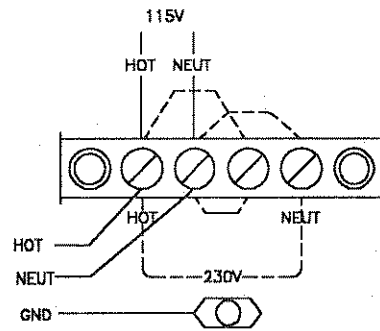

Figure 1. Input connections for BL1350A-1, BL1350B, BL1350B-2
- a) INPUT POWER- Connect 115 Vac or 230 Vac (for C models), 47-440 Hz, power lines to the designated terminals on the INPUT terminal block located at the unit's rear panel. (See figures 1 through 3).
- b) OUTPUT POWER- Output power lines can be connected to either the front panel HOT, NEUT, and GND binding posts or to the HOT and NEUT terminals on the OUTPUT terminal block located at the unit's rear panel (see figure 1, Section 3).